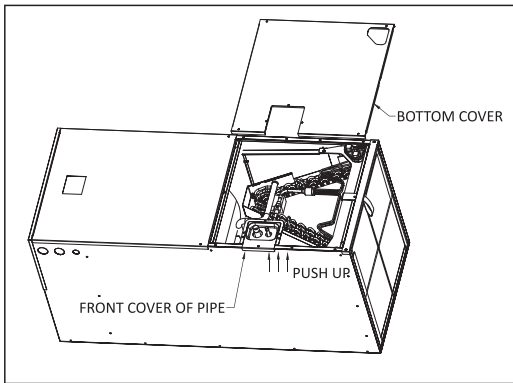

FIGURE 5: Connect the Refrigerant line
2. Braze the suction line and the liquid line. See figure 5.